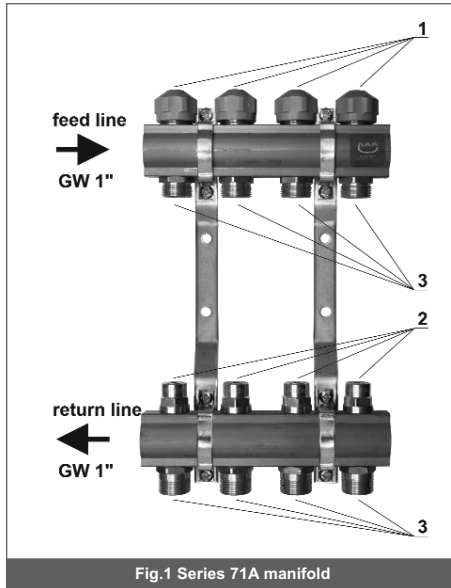

Fig.1 Series 71A manifold
3. **series 71A** (Fig.1) - lower beam with built-in control valves (they compensate flow resistance in particular heating coil) and outputs for particular circuits with male thread G $\frac{3}{4}$ " (Eurokonus);